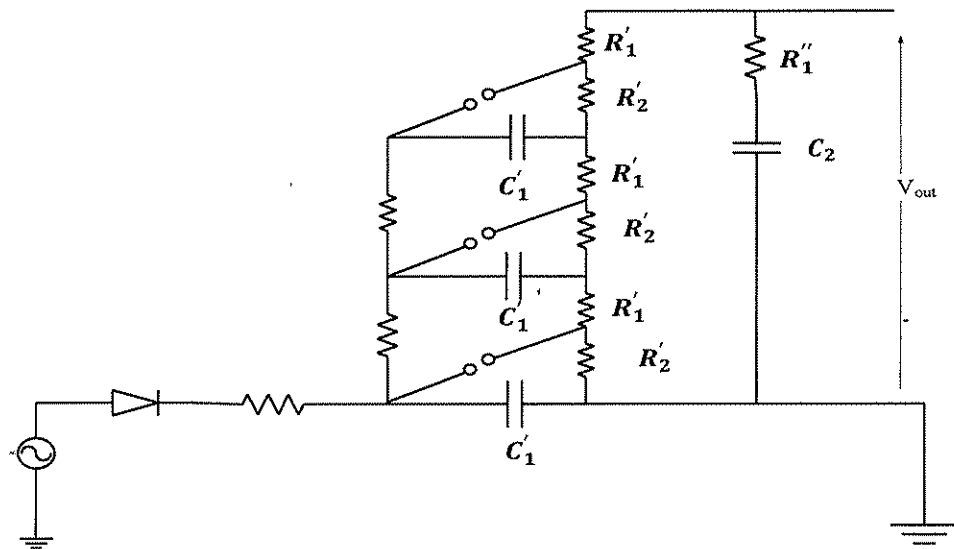

Figure 8: A 3-stage impulse voltage generator
- v) A 3-stage Marx impulse generator has parameters and configuration as shown in the Figure 8 below with the following components: each of the distributed internal front resistors is  $75 \Omega$ , tail resistors each  $2 \text{ k}\Omega$ , external front resistor  $100 \Omega$ , the internal storage capacitors each  $0.25 \mu\text{F}$  and external discharge capacitor  $2 \text{ nF}$ . Calculate its total equivalent storage capacitance  $C_1$ , front resistor  $R_1$  and tail resistor  $R_2$ . Also calculate the corresponding time constants in the time domain impulse voltage wave expression.